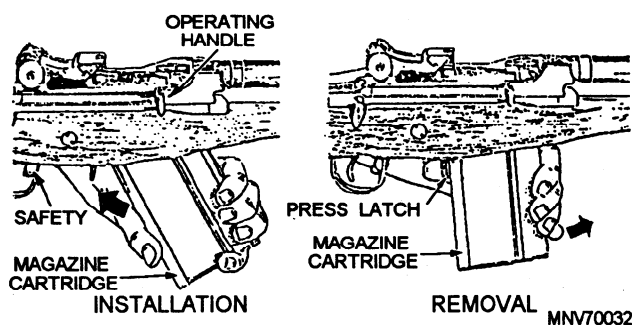

Figure 2-19.—Installation and removal of the magazine.
If a magazine is in the rifle, press the magazine latch (fig. 2-19) and remove the magazine. Pull the operating handle all the way to the rear and check to see that the weapon is free of ammunition. Then ease the operating rod forward to the locked position and move the safety to the rear (SAFE position).
To load a full magazine into a rifle, insert the front end of the loaded magazine well into the front catch until the front catch snaps into engagement, then pull the magazine rearward and upward until the magazine latch locks it into position (fig. 2-19).
2. Grasp the magazine with your thumb on the magazine latch, and squeeze the latch to release it. Push the magazine forward and downward to disengage it from the front catch, and then remove it from the magazine well, as shown in the right-hand view of figure 2-19.